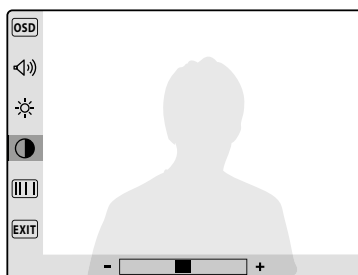

Fig. 20
- The picture contrast (8 levels, **Fig. 20**);